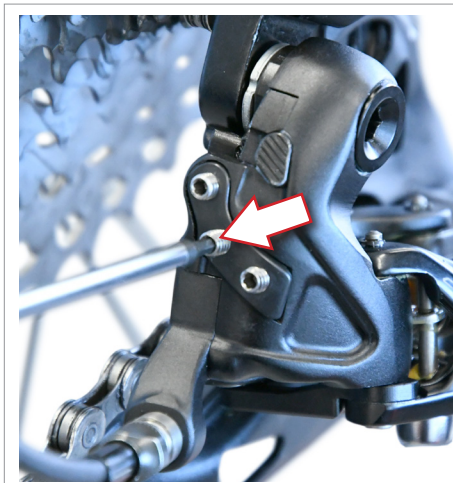
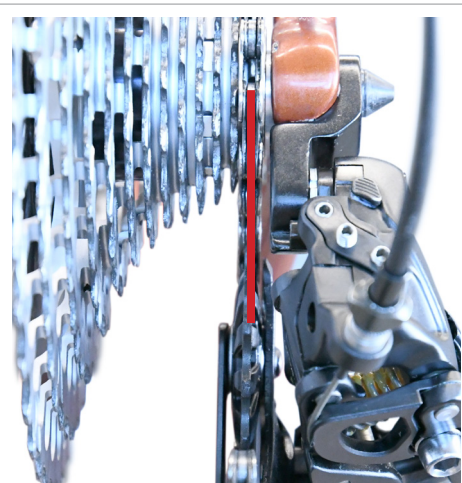

Fig.9
Fig.10
- Turn the screw (Fig. 9) until the centre section of the upper wheel is perfectly aligned with the first sprocket (Fig. 10).